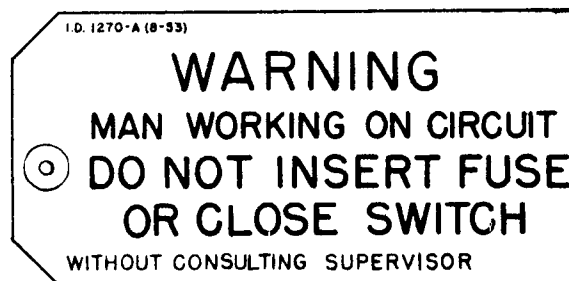

FIG. 1 ID-1270-A - WARNING TAG (RED TAG - BLACK LETTERS) (Par. 3.1)
3.1 When a fuse is removed or switch is opened in a live circuit in order to work on the circuit, it is advisable to cover the fuse clips with insulating material, or to secure the switch in an open position to prevent the circuit from being accidentally closed while being worked on. In addition to these measures, a warning tag, ID-1270-A, should be placed on the fuse or switch, and removed only by the person responsible for the operation. See Figure 1.